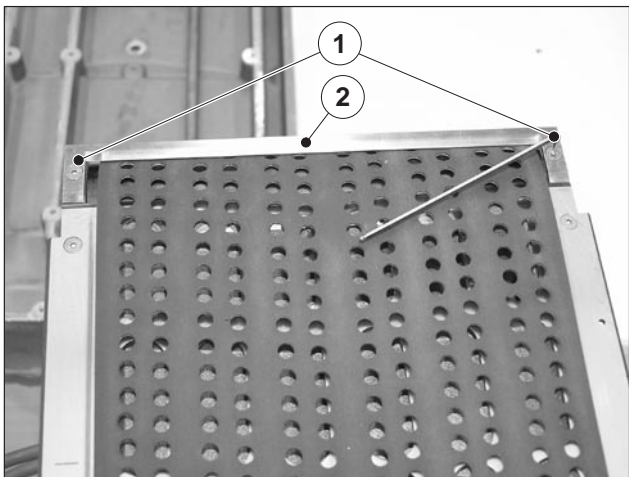

Fig. 89 Removing the guide plate
2. Loosen the screws (Fig. 89/1) on the guide plate.
3. Remove the guide plate (Fig. 89/2) from the suction tape module.